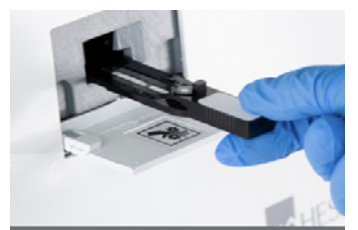

Figure 8
5. Touch **OPEN ANALYZER DOOR** and insert the cartridge into the analyzer. Figure 8